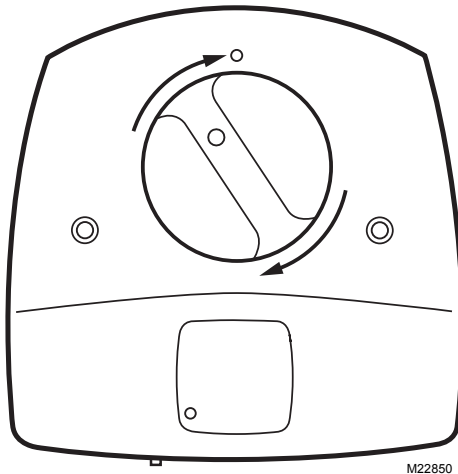

Fig. 9. Snap bulb into place.
8. Rotate the lamp handle clockwise until it snaps into place with the lamp light indicator aligned with the raised button on the unit cover. See Fig. 9.
8. Rotate the lamp clockwise until it snaps into place with the lamp light indicator aligned with the raised button on the unit cover. See Fig. 9.